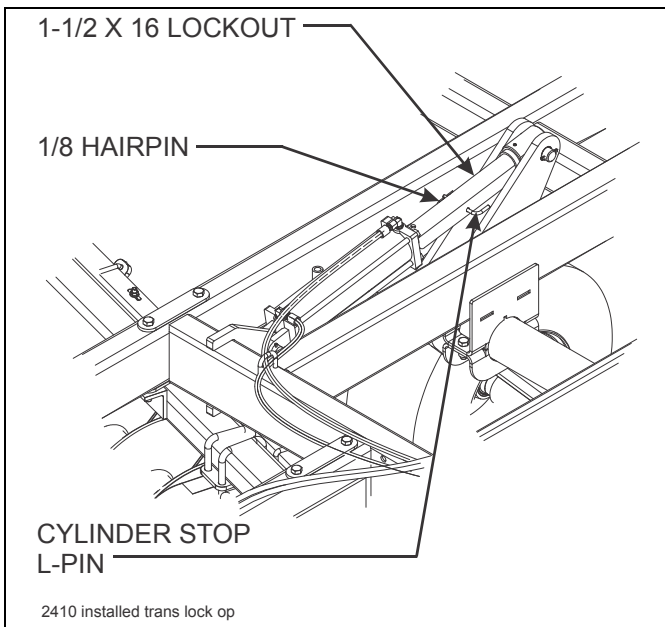

Figure 4-10: Installed Transport Locks
7. Install transport locks on both lift cylinders. Do not depend solely on implement hydraulics for transport. (See Figure 4-10.)